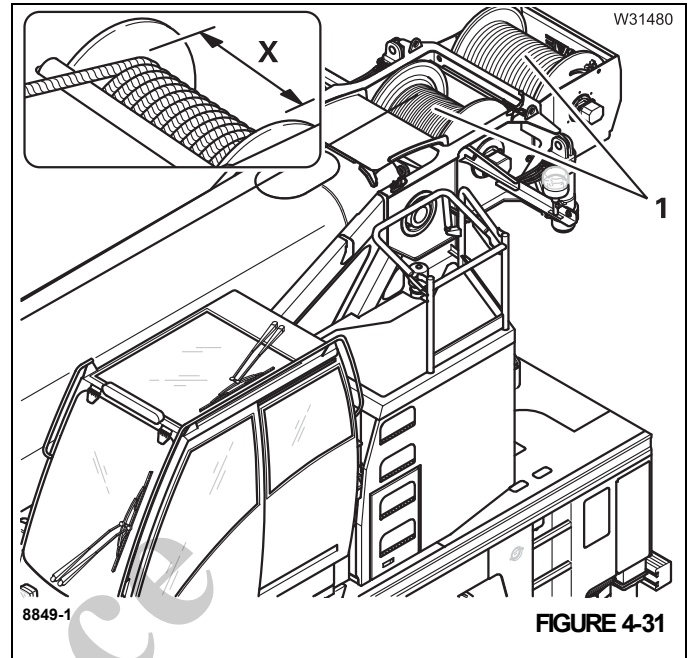

FIGURE 4-31
- When possible check the entire length of the winding of the ropes (1), (Figure 4-31).